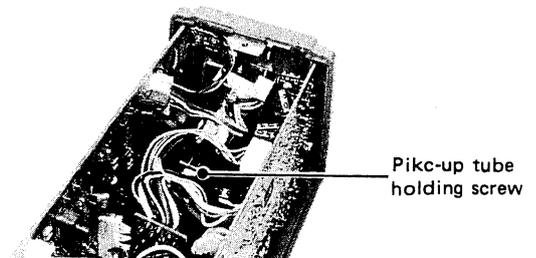

Fig. 2
- Loosen the pick-up tube holding screw. (Fig. 2)
- Tighten the pick-up tube holding screw (Fig. 2) to secure the pick-up tube in place.